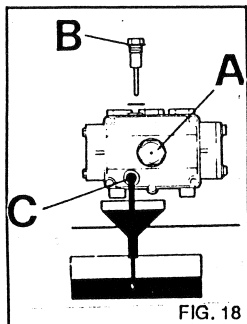

FIG. 18
From time to time check oil level in the high pressure pump either by means of the sight glass (fig. 18 A) or the dipstick (fig. 18 B).
- 1) Unscrew the drain cap under the pump (fig. 18 C).